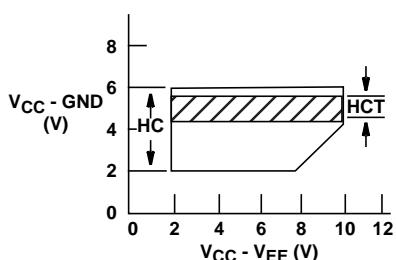

FIGURE 2.
In addition these devices contain logic-level translation circuits that provide for analog signal switching of voltages between ±5V via 5V logic. Each switch is turned on by a high-level voltage on its select input (S) when the common Enable (E) is Low. A High E disables all switches. The digital inputs can swing between V_{CC} and GND; the analog inputs/outputs can swing between V_{CC} as a positive limit and V_{EE} as a negative limit. Voltage ranges are shown in Figures 2 and 3.
| HC, HCT Types (Figure 2) | | .2V to 10V |